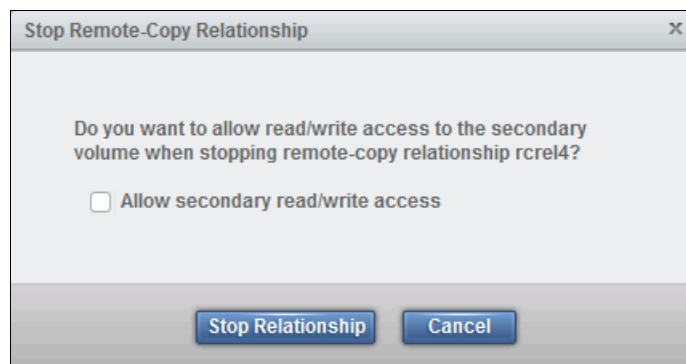

Figure 10-110 Option to allow secondary read/write access
2. A prompt displays. Click to **Allow secondary read/write access**, if required, and then click **Stop Relationship**, as shown in Figure 10-110.